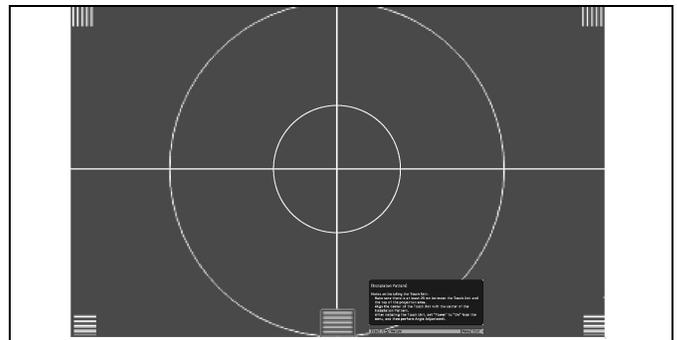

Figure 20
6. The installation pattern is displayed on the projected image. (See Figure 20)
**NOTE:** Use the center mark on the top frame of screen (red tape at top of frame) to line up with vertical line at center of pattern. (See Figure 20)